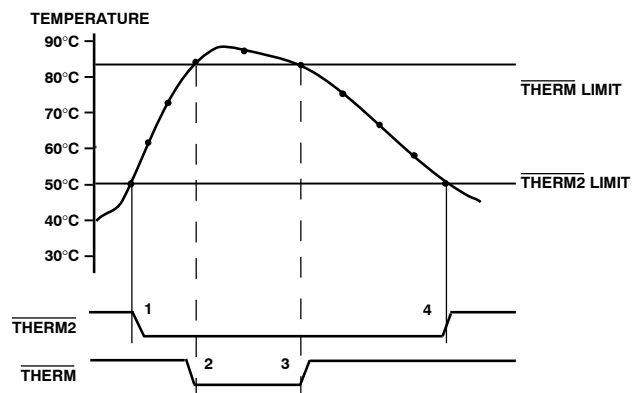

Figure 21. Operation of the  $\overline{\text{THERM}}$  and  $\overline{\text{THERM2}}$  Interrupts
Pin 13 on the ADT7483A can be configured as either an  $\overline{\text{ALERT}}$  output or as an additional THERM output. THERM2 will assert low when the temperature exceeds the programmed local and/or remote high temperature limits. It is reset in the same manner as THERM, and it is not maskable. The programmed hysteresis value also applies to THERM2. Figure 21 shows how THERM and THERM2 might operate together to implement two methods of cooling the system. In this example, the THERM2 limits are set lower than the THERM limits. The THERM2 output can be used to turn on a fan. If the temperature continues to rise and exceeds the THERM limits, the  $\overline{\text{THERM}}$  output can provide additional cooling by throttling the CPU.
- The  $\overline{\text{THERM}}$  output deasserts (goes high) when the temperature falls to THERM limit minus hysteresis. In Figure 21, there is no hysteresis value shown.